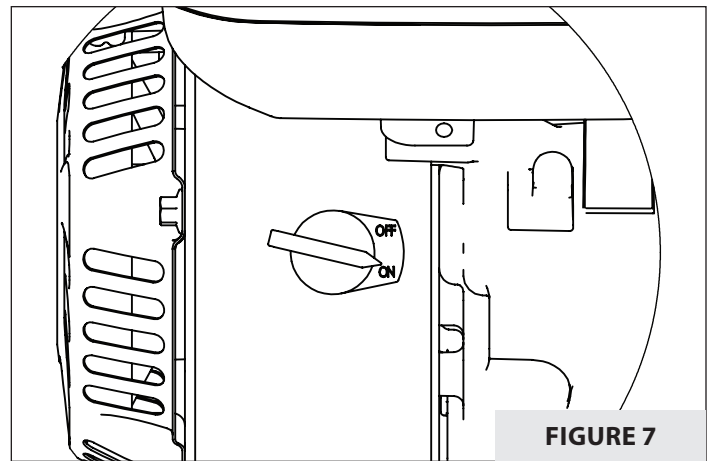

FIGURE 7
4. Turn the On/Off switch to the **ON** position. **SEE FIGURE 7.**